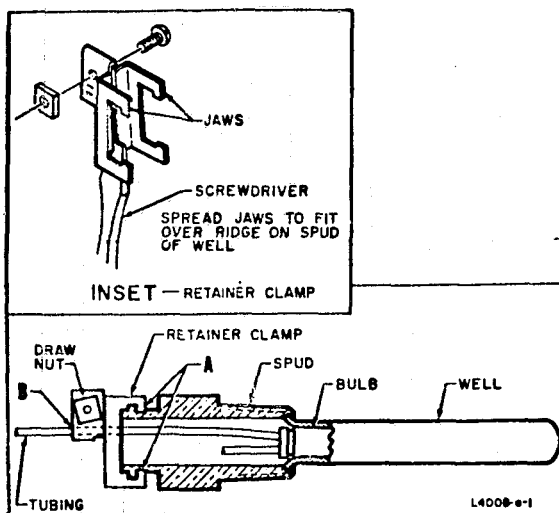
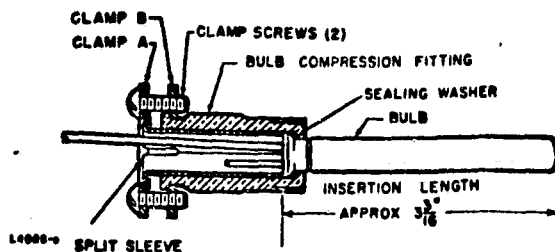
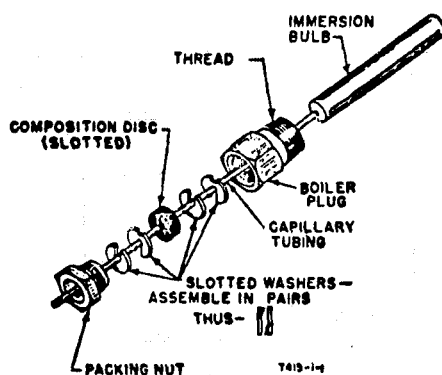

Fig. 2—Immersion well fitting.
Fig. 3—#104486B bulb compression fitting.
Fig. 4—#104484A boiler fitting.
Depending on model and installation requirements, the temperature sensing bulb is either installed in an immersion well (Fig. 2) that extends into the boiler or tank, or the bulb is directly immersed in the liquid. For installations not using a well, secure the bulb with a compression fitting (Fig. 3), or a boiler fitting (Fig. 4). Well, compression fitting, or boiler fitting must be ordered separately.
4. Place composition disc and 4 slotted brass washers on tubing in the order shown in Fig. 4. Turn brass washers so that slots are 180 degrees to each other.